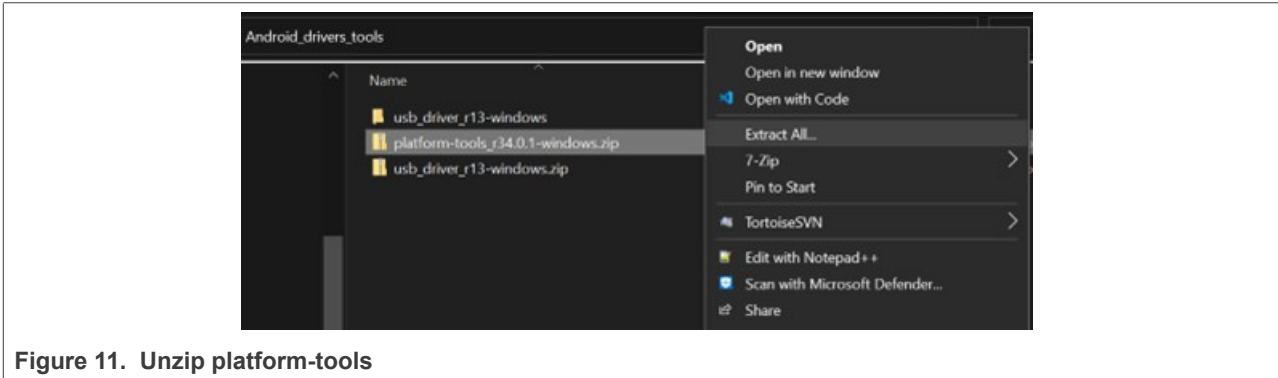
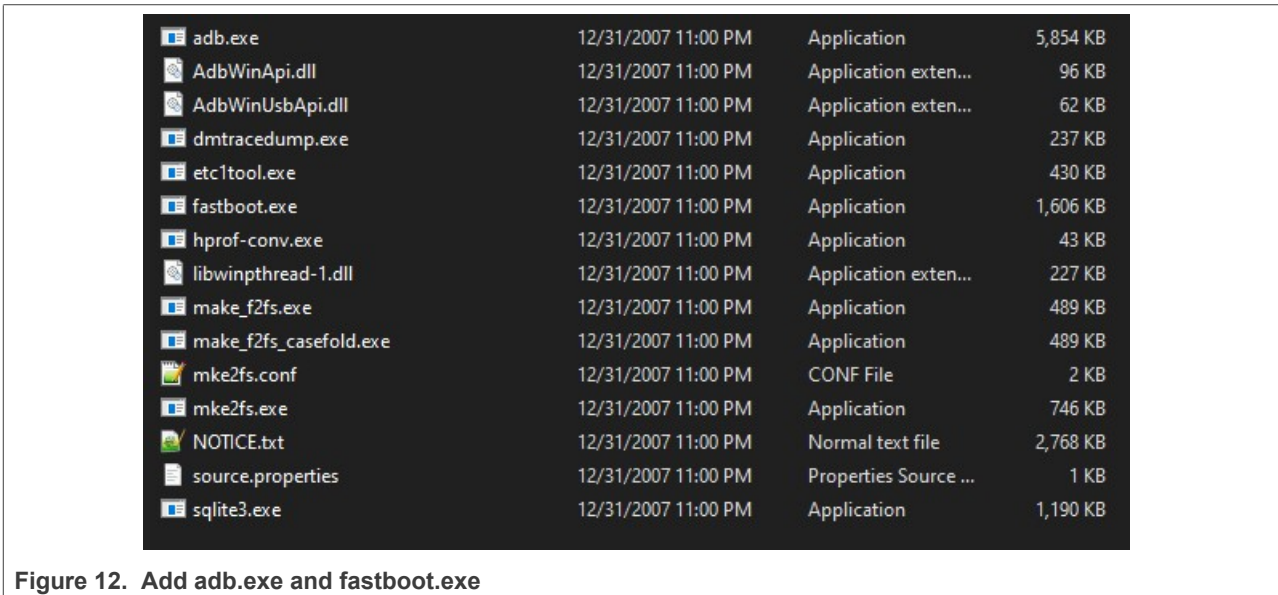

Figure 11. Unzip platform-tools
Figure 12. Add adb.exe and fastboot.exe
- 3. After downloading, extract the folder and add "adb.exe" and "fastboot.exe" to the path (see Figure 11 and Figure 12).